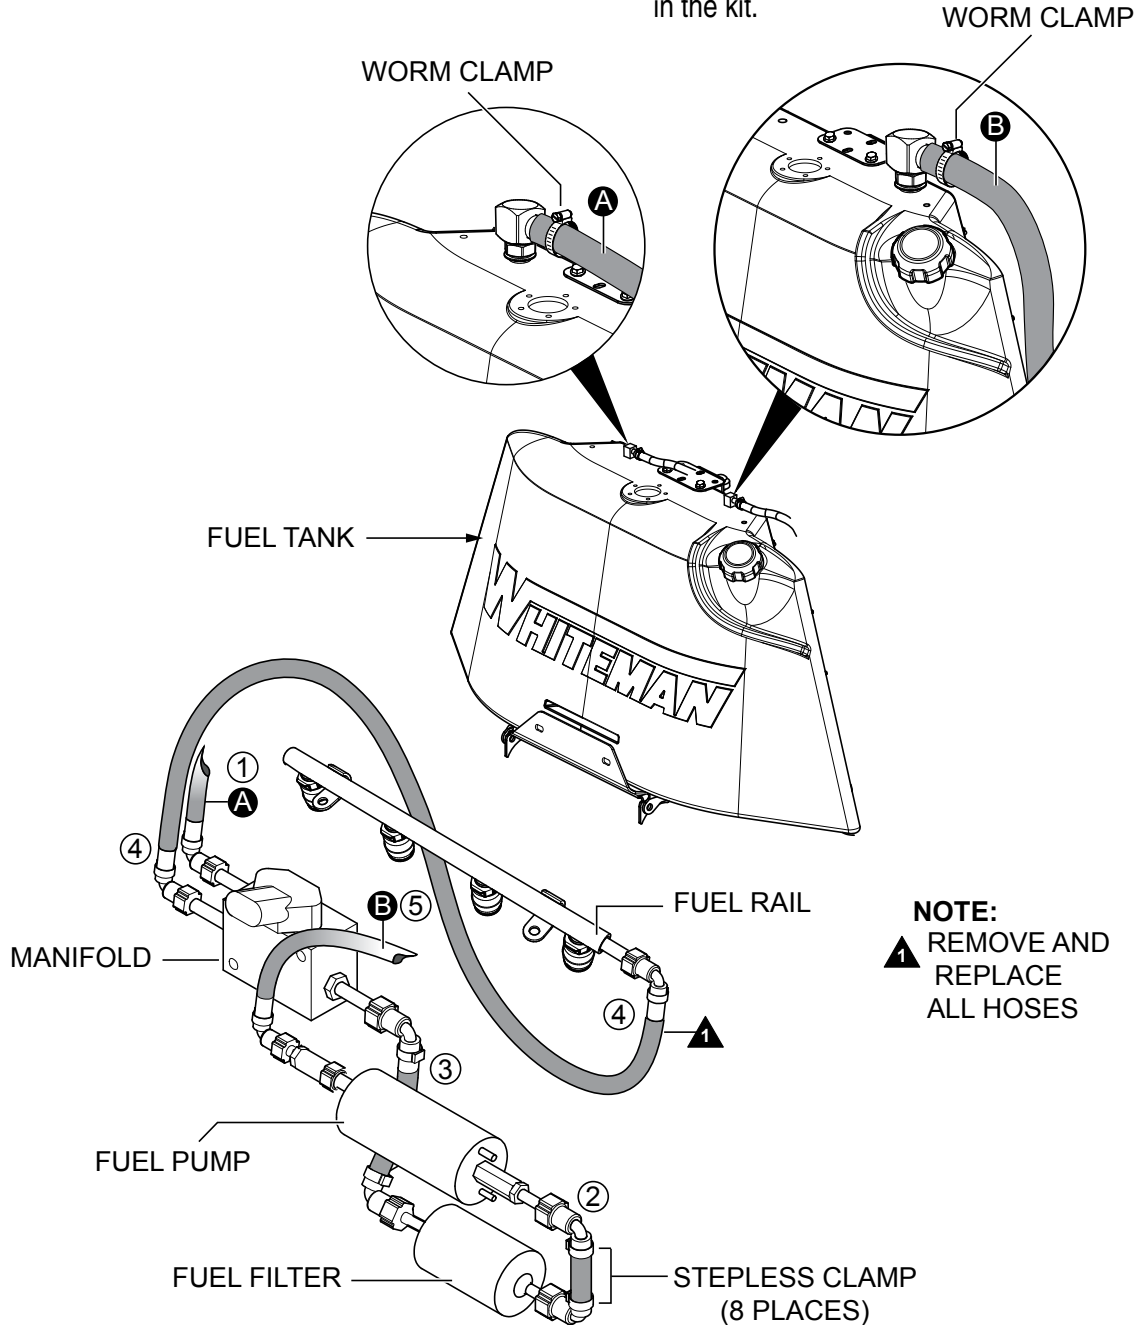

Figure 10. Location of Fuel Lines
2. Remove and replace five fuel lines (items 1 to 5 in Table 1) shown in Figure 10. All clamps should also be removed, discarded, and replaced with new ones in the kit.